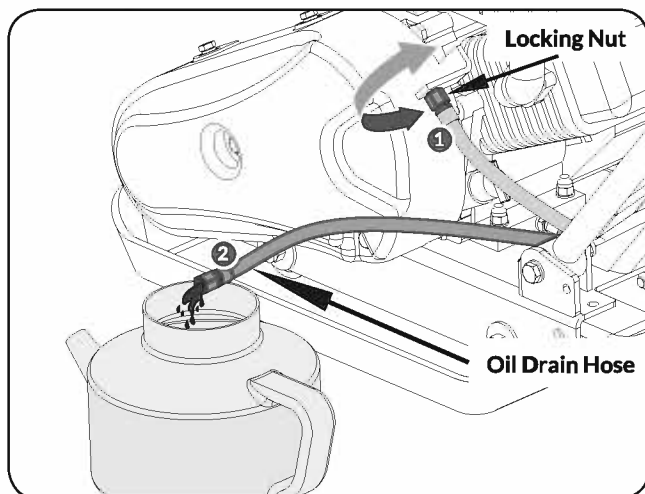

Figure 6
- » Running the engine with dirty oil can cause premature engine wear and failure. Changing oil regularly is extremely important. The flexible oil drain hose is equipped to drain oil into appropriate receptacle. (See **Figure 6**)